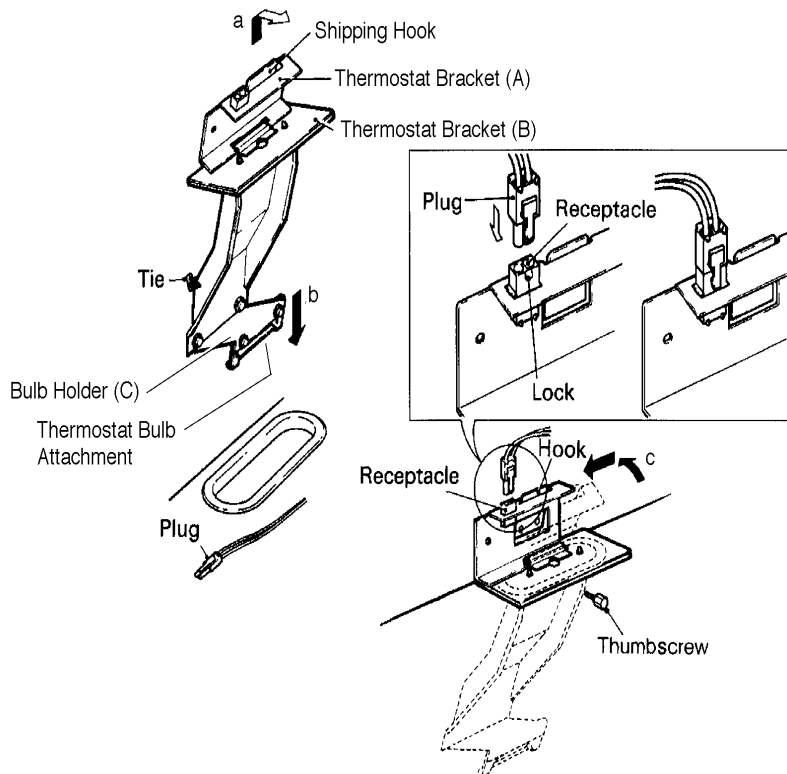

Fig. 3a
5) Install the Bin Control Thermostat as follows. See Figures 3a, b and c.
- (a) Remove the Tie securing the Bulb Holder. Remove the Thermostat Bracket (A) from the Shipping Hook by lifting up the Bracket (A) and shifting it to the right.
- (c) Slide the Thermostat Bracket (A) toward you with the bottom surface contacting the Thermostat Bracket (B).
- (d) Hook the Thermostat Bracket (A).